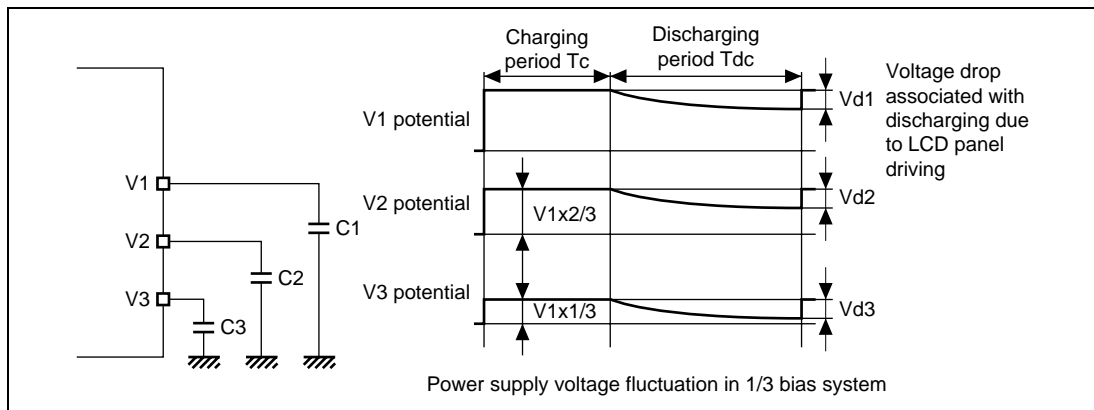

Figure 17.11 Example of Low-Power-Consumption LCD Drive Operation
- As shown in figure 17.11, external capacitors are connected to V1, V2, and V3 of the LCD power supply terminals.
- The capacitors connected to V1, V2, and V3 are repeatedly charged and discharged to retain required voltage levels in the cycles shown in figure 17.11.
- During charging period T_c in figure 17.11, the voltages that are divided by the internal division resistors are applied to the V1, V2, and V3 terminals (the V2 voltage is two thirds of the V1 voltage and the V3 voltage is one third of the V1 voltage), and these voltages charge external capacitors C1, C2, and C3. Even during this period, the LCD panel is being driven.
- The capacitors connected to the V1, V2, and V3 terminals are repeatedly charged and discharged in the cycles shown in figure 17.11 and retain required voltages, keeping the LCD panel in operation.